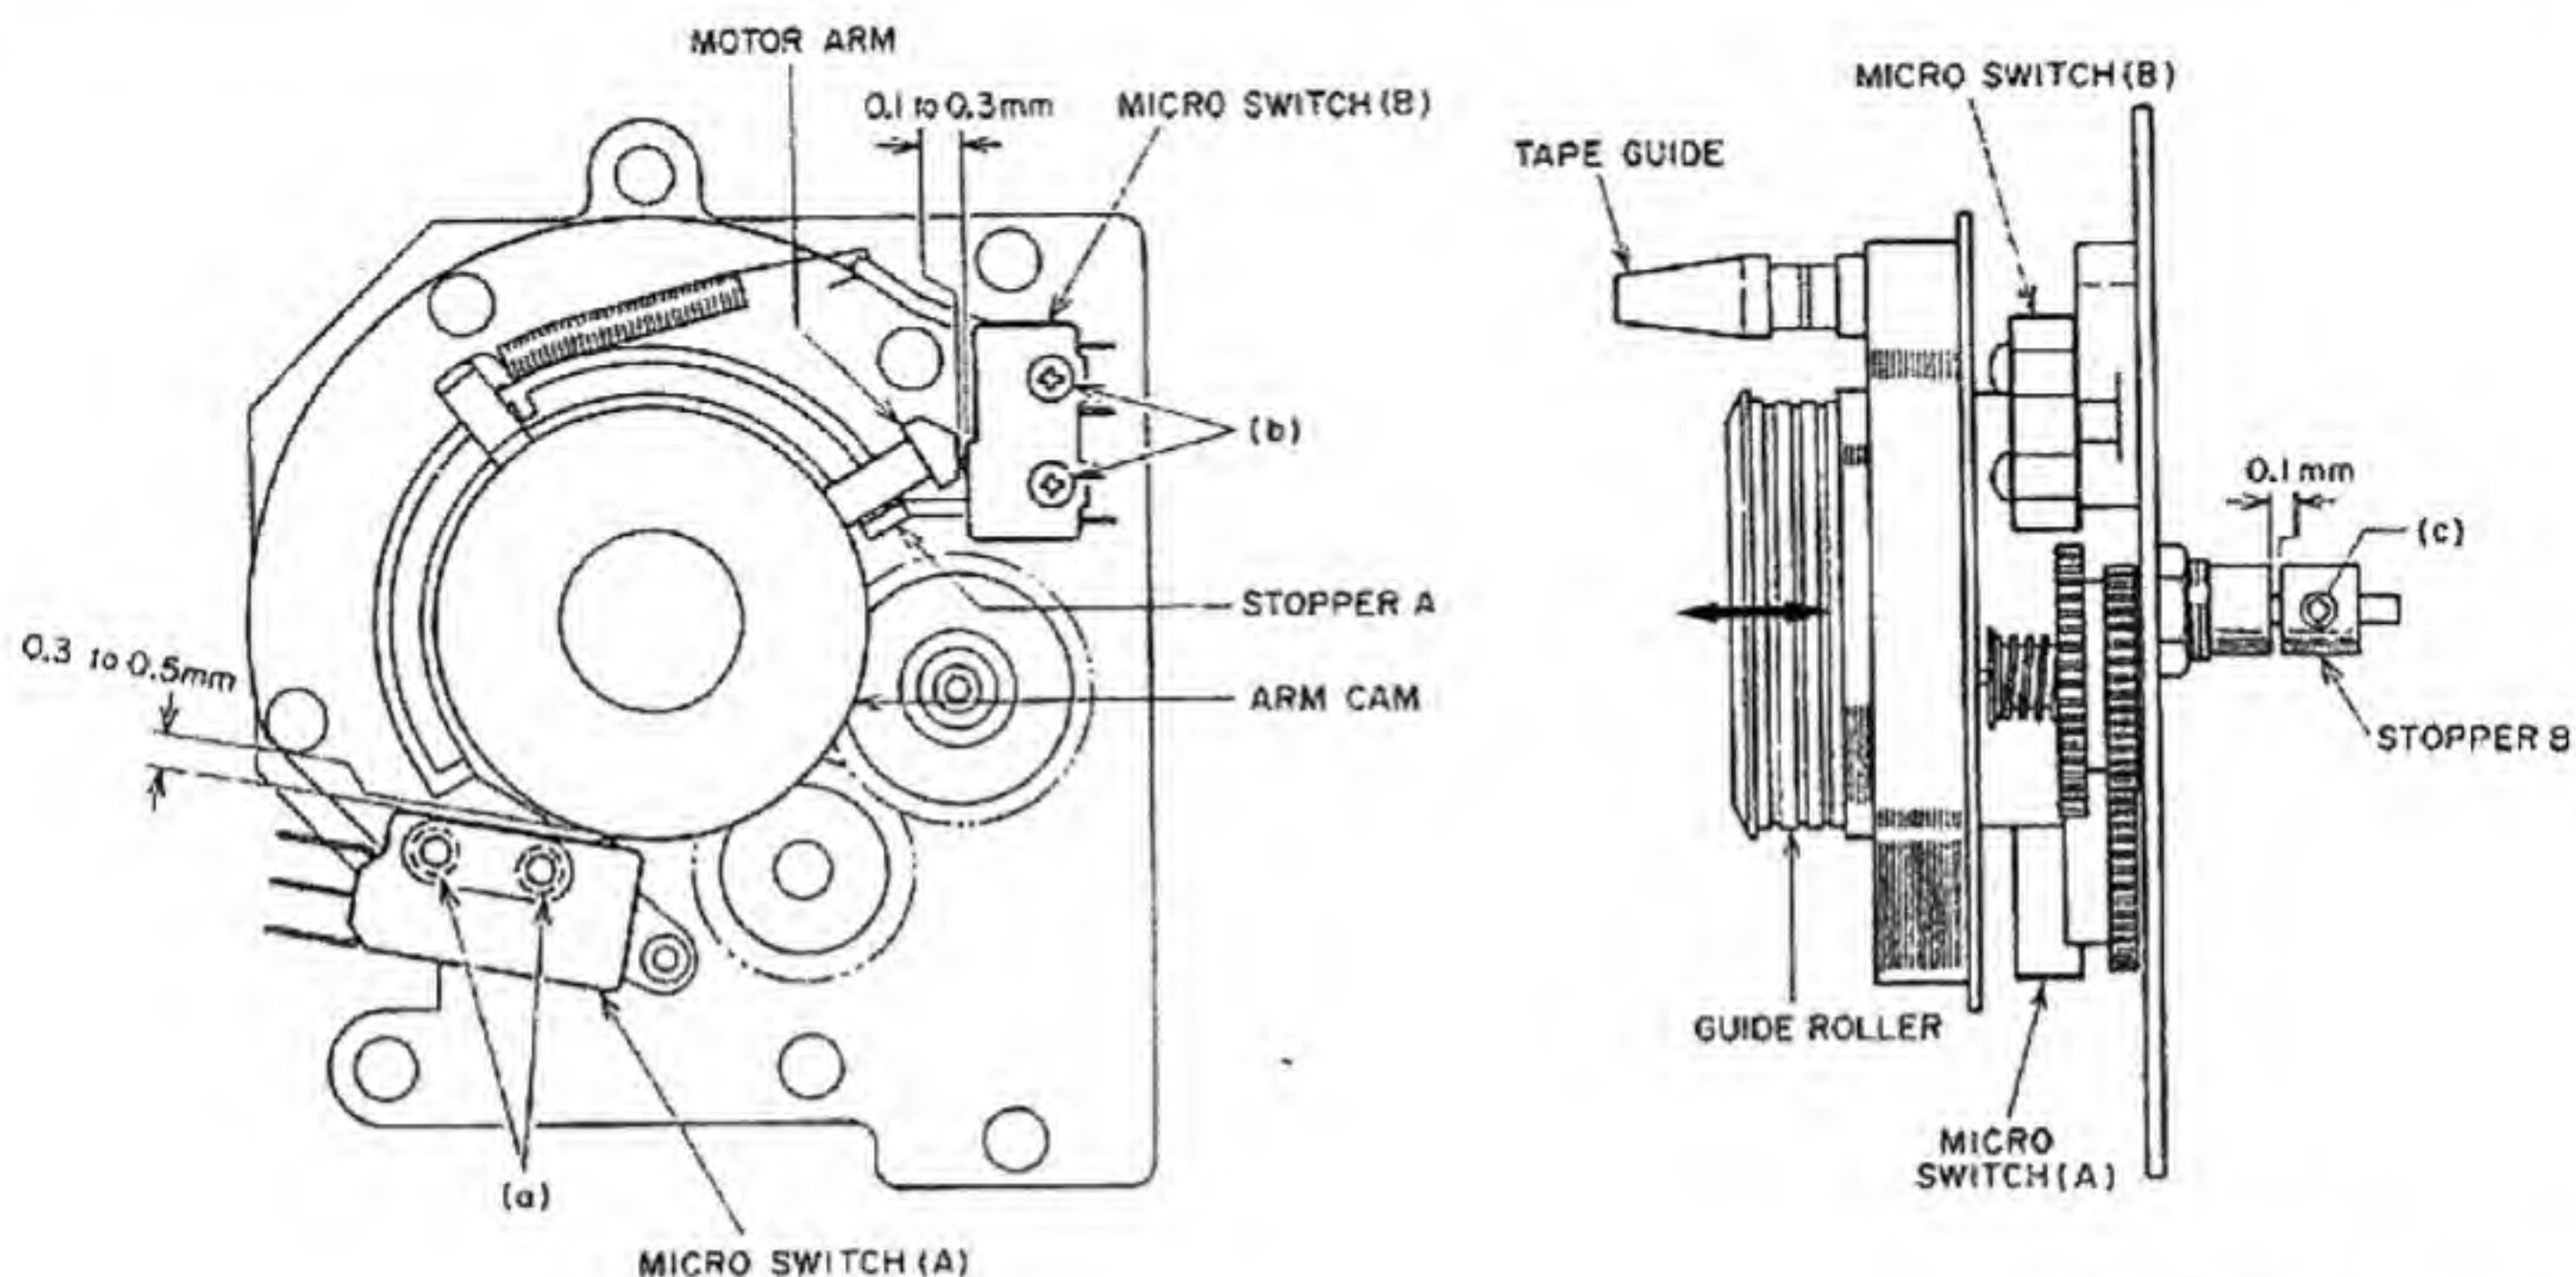

Fig. 33 Roller Block
ADJUSTMENT (Refer to Fig. 33)
Adjust the stopper B (roller pulley on the right) screw (c) so that the loose play gap is approximately 0.1 mm when the guide roller is moved as indicated by arrow mark in Fig. 33.
2. MICRO SWITCH POSITION ADJUSTMENT (Refer to Fig. 33)